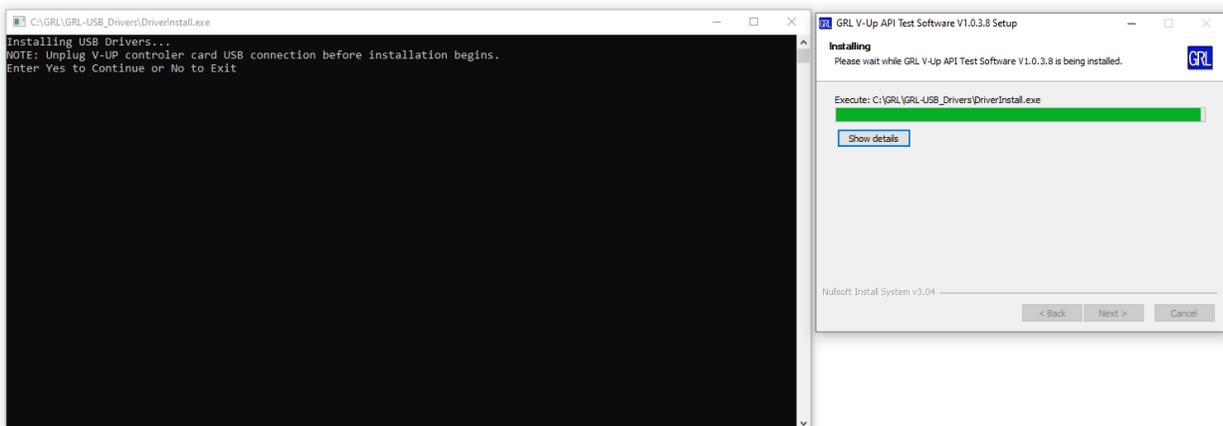
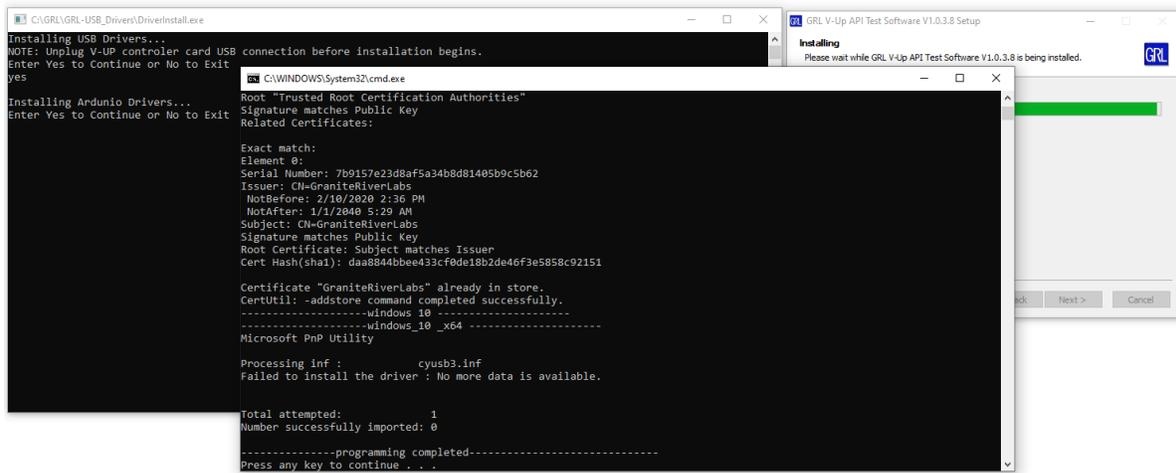

FIGURE 3.4: GRL-V-UP USB DRIVERS INSTALLATION IN PROGRESS #1
FIGURE 3.5: GRL-V-UP USB DRIVERS INSTALLATION IN PROGRESS #2
6. While installation is running, a Command prompt window for GRL-V-UP USB drivers installation will pop up as shown in Figure 3.4. Type “YES” and press the “Enter” key to install the USB drivers. Once the drivers have been installed, the user will be asked to press any key as shown in Figure 3.5. This will complete the driver installation and will go on to begin installation for GRL-V-UP Arduino drivers.